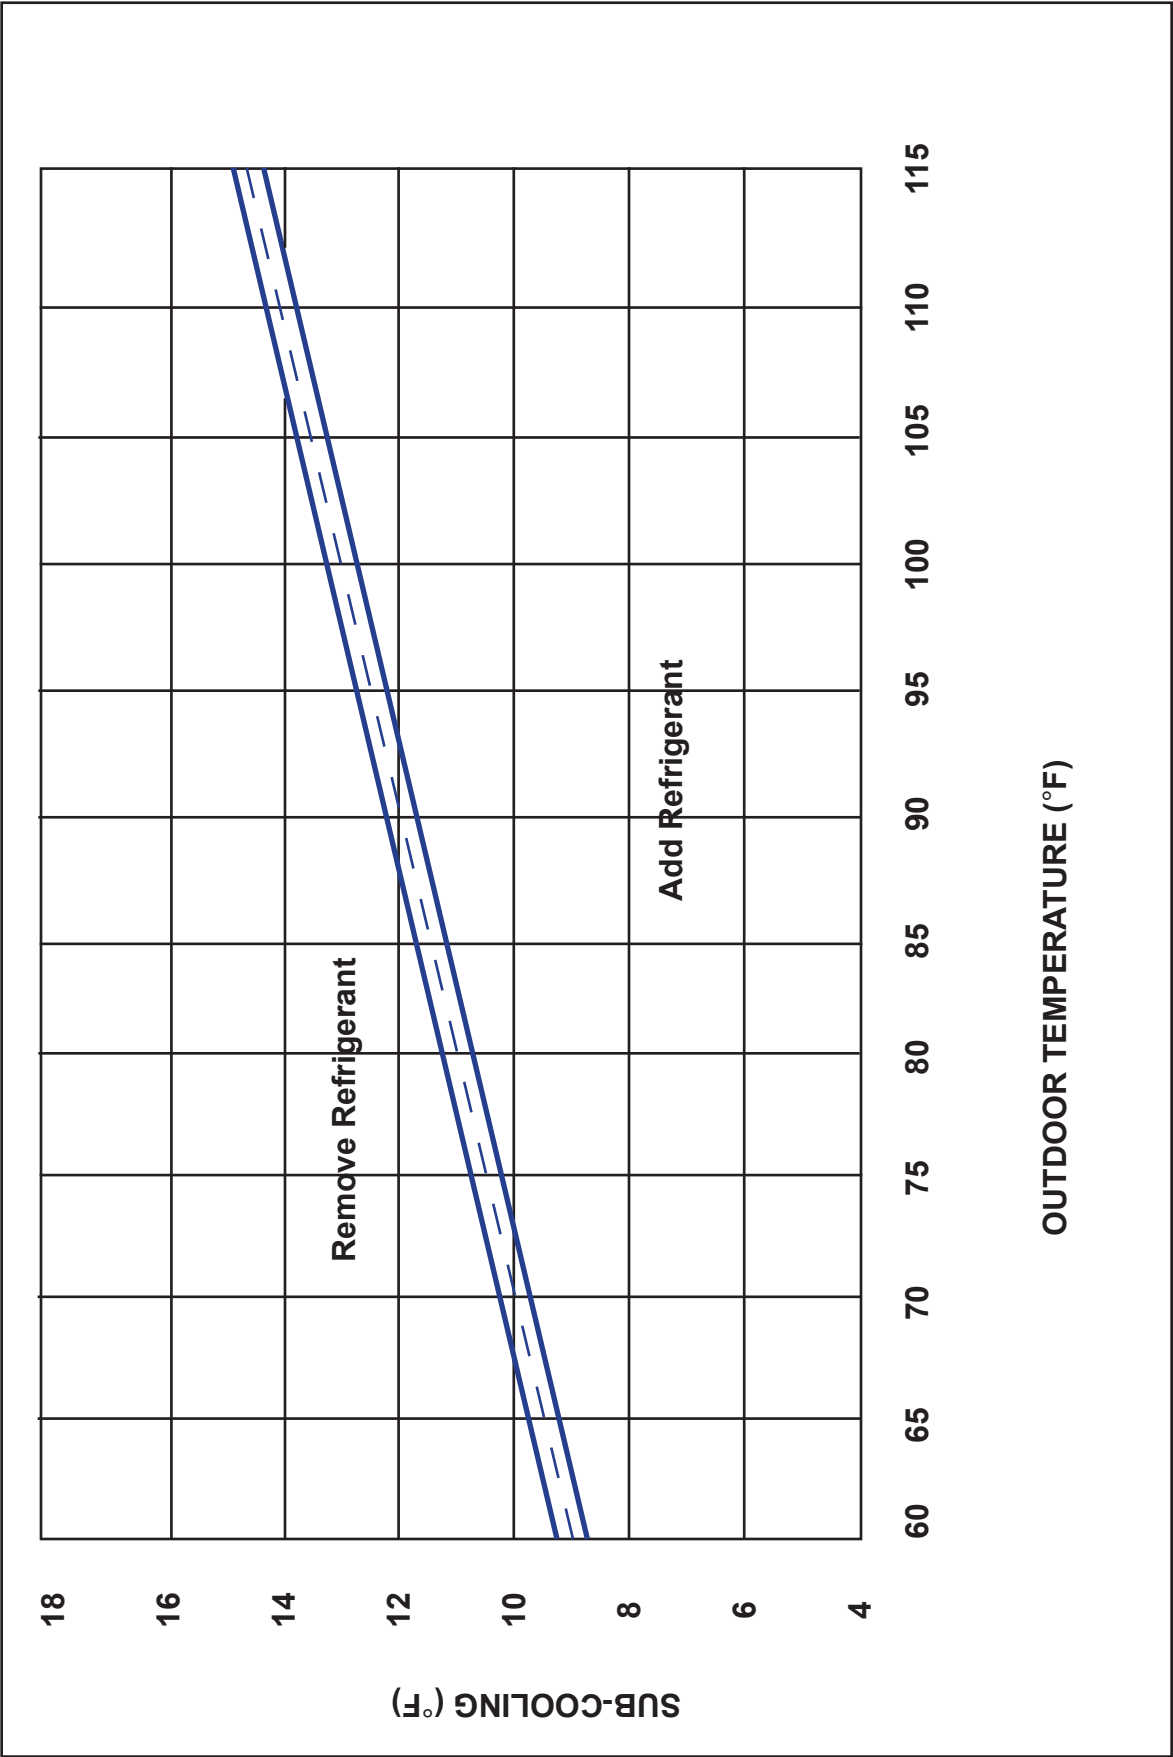

Figure 3. Sub-cooling Charging Chart
4. Subtract T3 from T2. (T2 - T3). This is the sub-cooling value. Compare this value and the outdoor temperature (T1), to the chart on page 8 (Figure 3). If the value is below the line, add refrigerant. If the value is above the line, remove refrigerant charge.